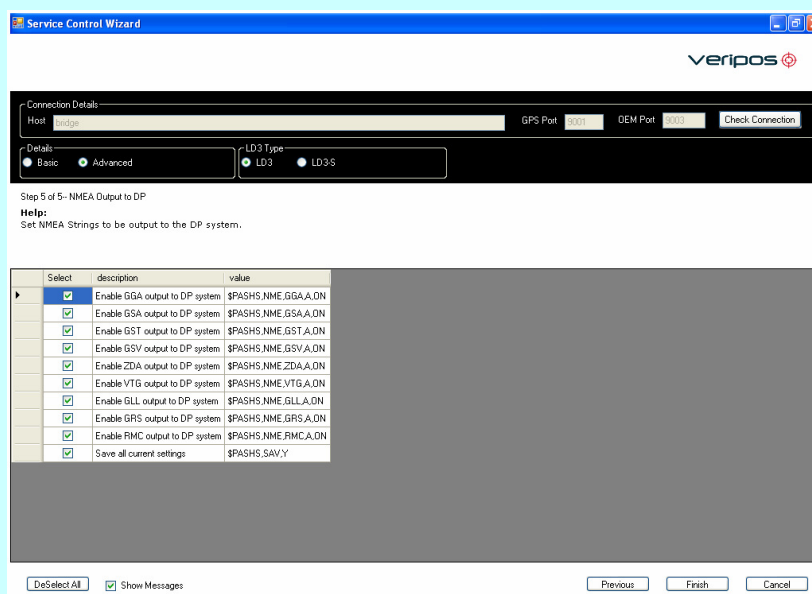

Fig 17 Commissioning Tool – Advanced Screen 5
5.7 The commissioning tool now moves onto Advanced Screen 5 as in Fig 17